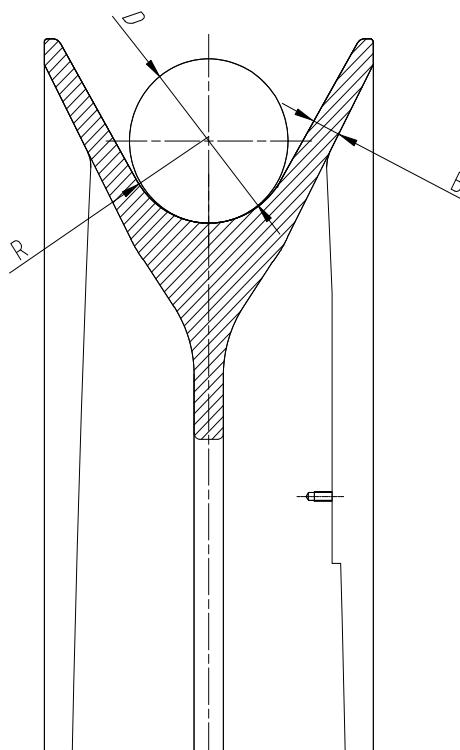

Figure 7-113: Sheave
- If the groove radius R (see Figure 7-113) is larger than 14, replace the sheave.
- If the groove breadth B (see Figure 7-113) is less than 7.6 mm, replace the sheave.